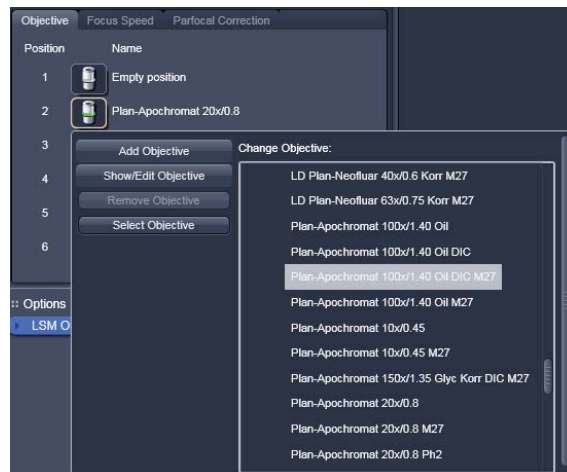

Fig. 4-133 Add Objective window – Potential Objectives
- Click on the **Add Objective** button on the **Change Objective** window (Fig. 4-133).